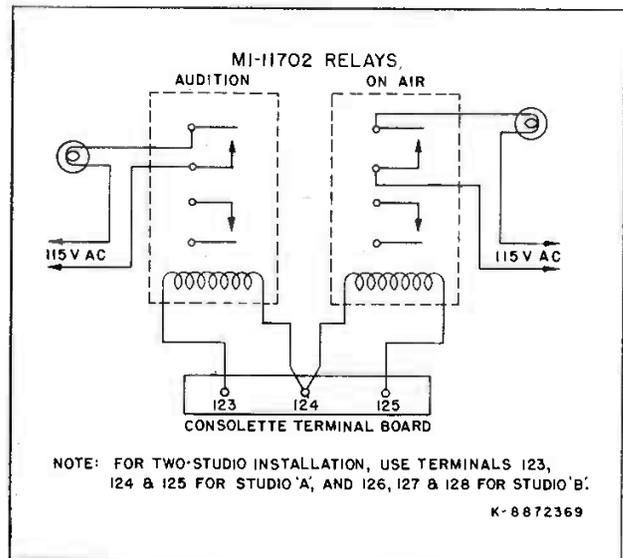

Figure 13 — Studio Signal-Light Connections
(2) Connect the relays and lights as shown in figure 13.